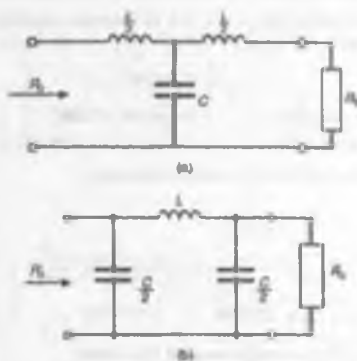
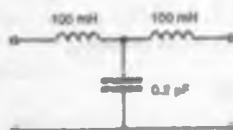
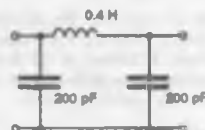
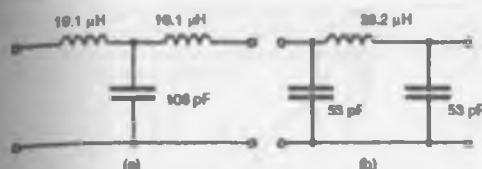

Figure 17.7
Figure 17.8
Figure 17.9
Figure 17.10
A low-pass symmetrical T-network and a low-pass symmetrical π -network are shown in Figure 17.7. It
Problem 1. Determine the cut-off frequency and the normal impedance for the low-pass T-connected section shown in Figure 17.8.
Comparing Figure 17.8 with the low-pass section of Figure 17.7(a), shows that:
Problem 2. Determine the cut-off frequency and the nominal impedance for the low-pass π -connected section shown in Figure 17.9.
Comparing Figure 17.9 with the low-pass section of Figure 17.7(b), shows that:
(a) A low-pass T-section filter is shown in Figure 17.10(a), where the series arm inductances are each $\frac{L}{2}$ (see Figure 17.7(a)), i.e. $\frac{38.2}{2} = 19.1 \mu\text{H}$
- (b) A low-pass π -section filter is shown in Figure 17.10(b), where the shunt arm capacitances are each $\frac{C}{2}$ (see Figure 17.7(b)), i.e.